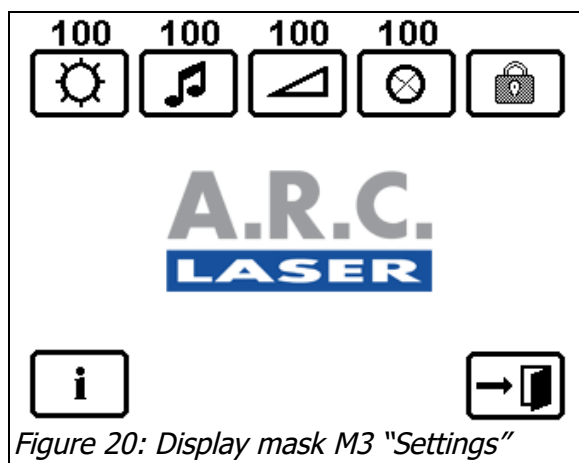

Figure 20: Display mask M3 "Settings"
- Switch from main menu to the settings display (compare Figure 20) via pressing the two aiming beam buttons simultaneously (functions only in STANDBY-mode)